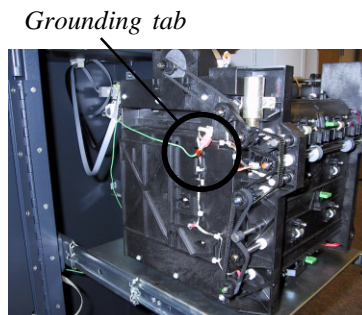

Figure 11. Securing the grounding wire to the dispensing mechanism chassis.
11. Refer to Figure 11. Locate the green grounding wire. Insert the spade lug at the end of the wire to the ground tab on the chassis, as shown.